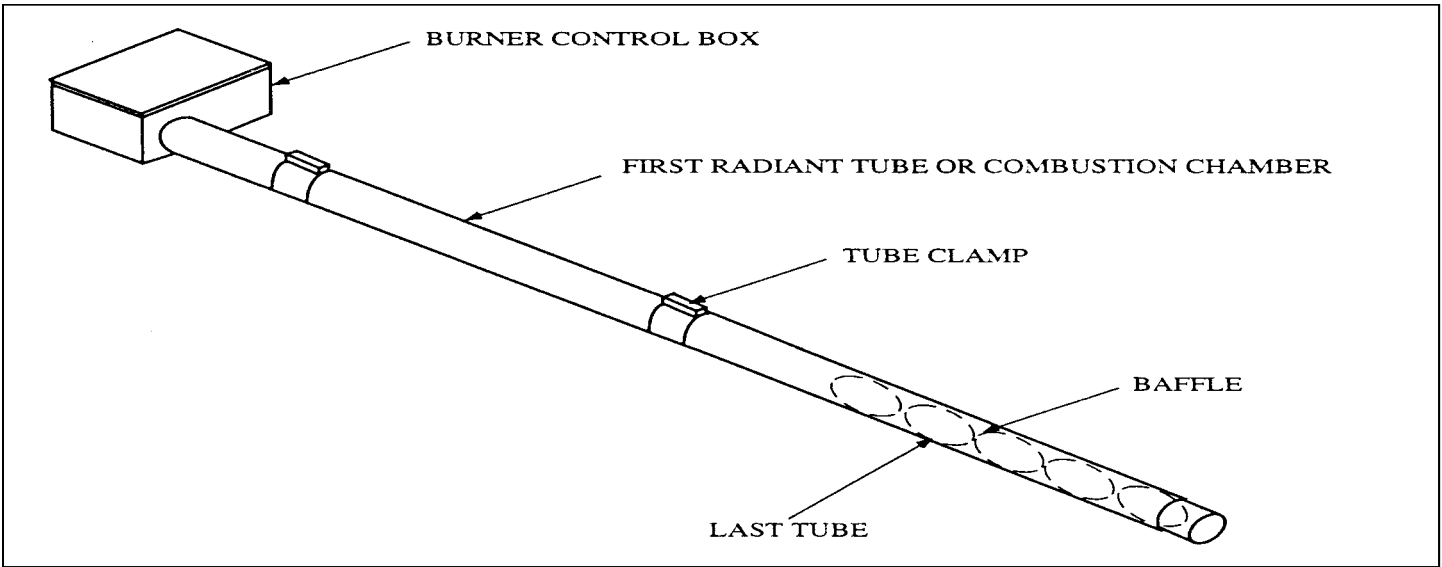
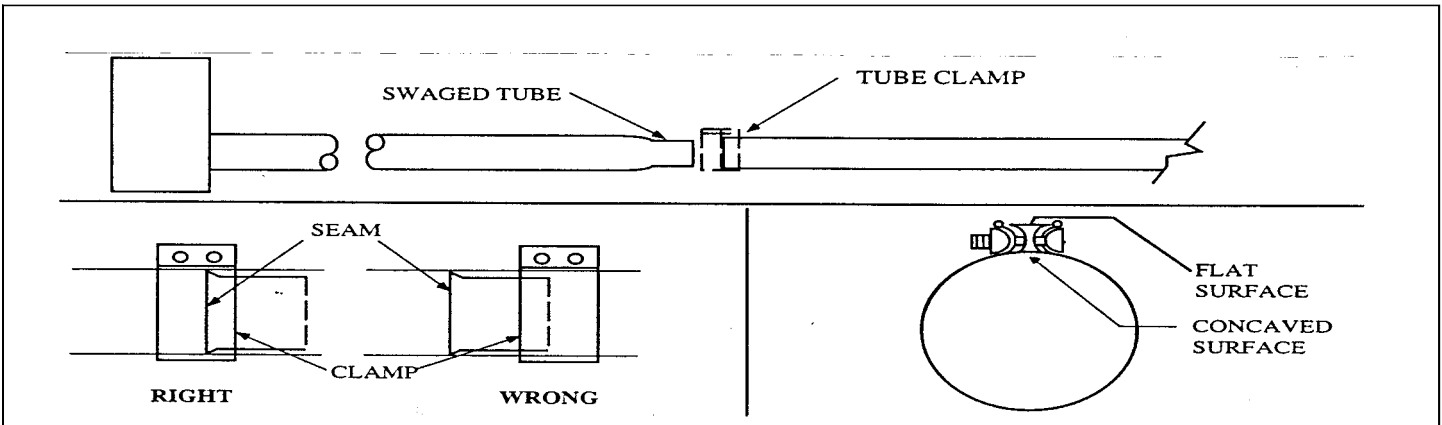

Figure 1-5
Figure 1-6
**NOTE:** The baffle has been installed at the factory and should be in the vertical position (Figure 1-5). Install the tube clamps over the radiant pipe seam joint and tighten to 50 ft./lb. torque (Figure 1-6). Do **not** alter baffle length.
**NOTE:** The tube clamps provided with the heater are pre-assembled at the factory. If a clamp is dismantled, it is important that upon reassembly the spacer is properly inserted (see Figure 1-6). The spacer's concave surface must face the radiant tube. Incorrect spacer placement will result in shearing of the bolt when torqued to the recommended specifications (50-70 lb./ft.).